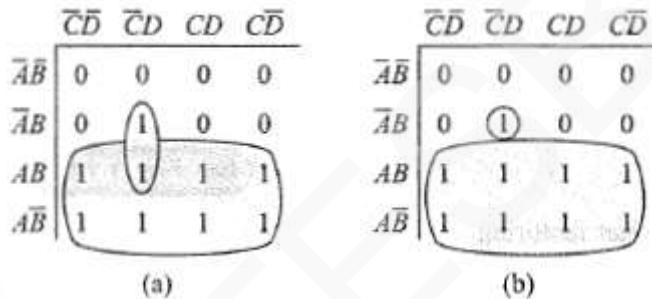

Figure 3.16: Overlapping groups
- In Figure 3.16, the simplified equation for the overlapping groups is